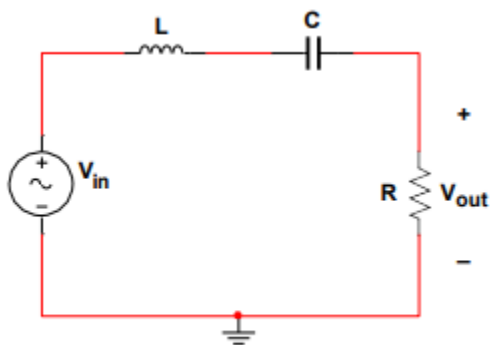

Figure 3.1 – Series Resonant Circuit
1. **Build** the circuit in **Figure 3.1** on a breadboard using the following components: